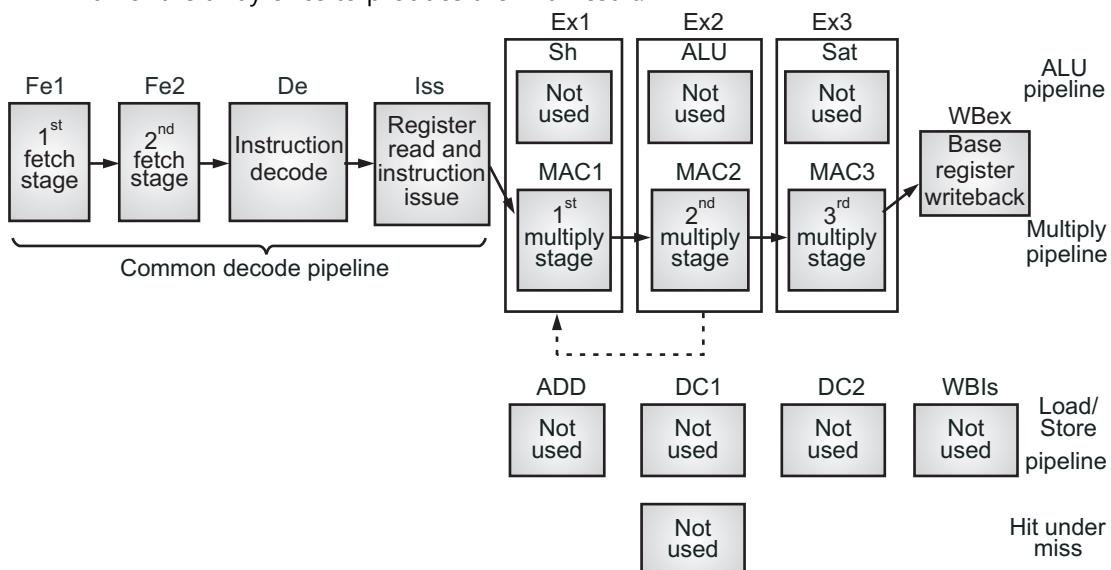

Fig. 2.11 : Typical multiply operation
- Below Fig. 2.11 shows a typical multiply operation. The MUL instruction can loop in the MAC1 stage until it has passed through the first part of the multiplier array enough times.